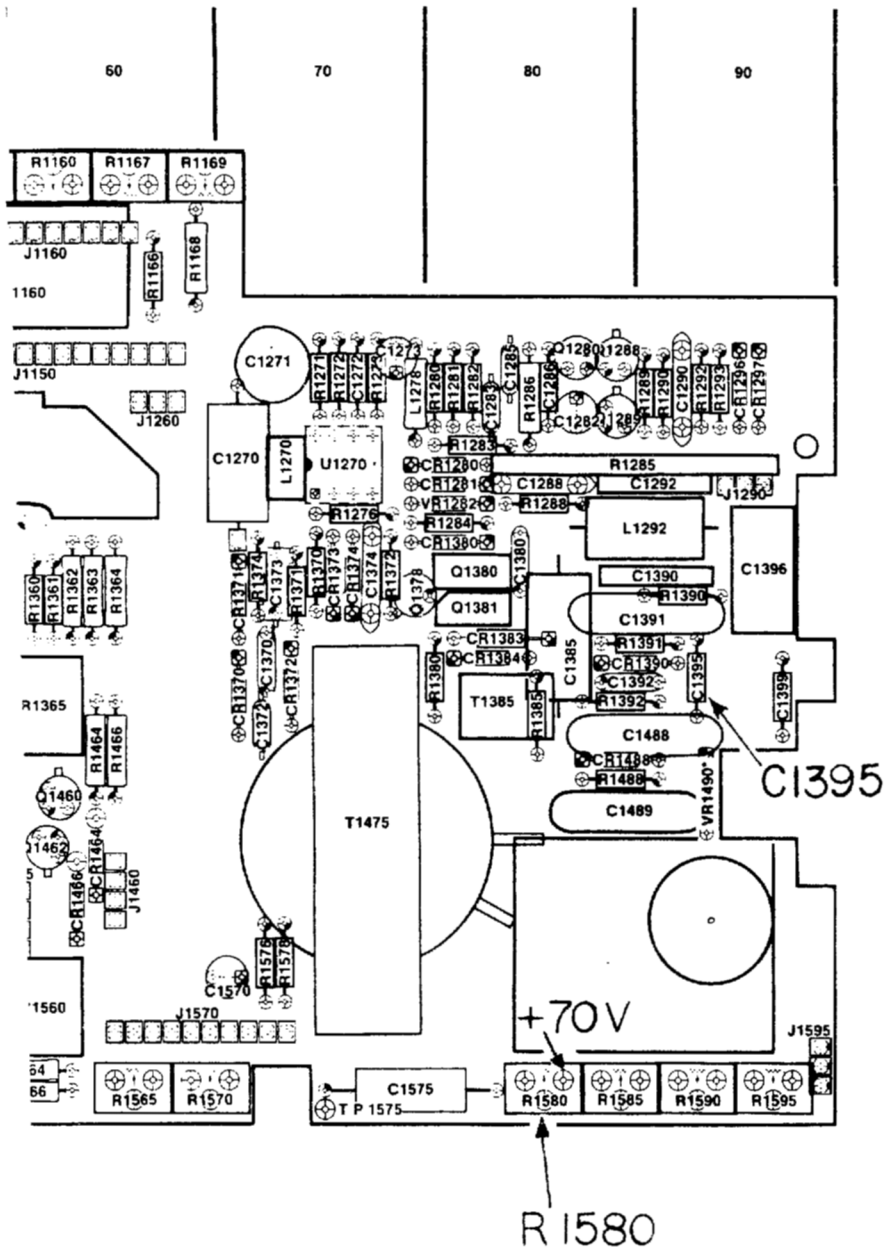

Fig. 2 Partial - Main circuit board
- () 3. Remove the Geometry adjust potentiometer, R1580 (refer to Fig. 2).
- () 5. If your instrument has a red-violet wire soldered to the board at the location labeled +70V in Fig. 2, remove the wire from the board, and remove it from the pin in the crt socket to which it connects.